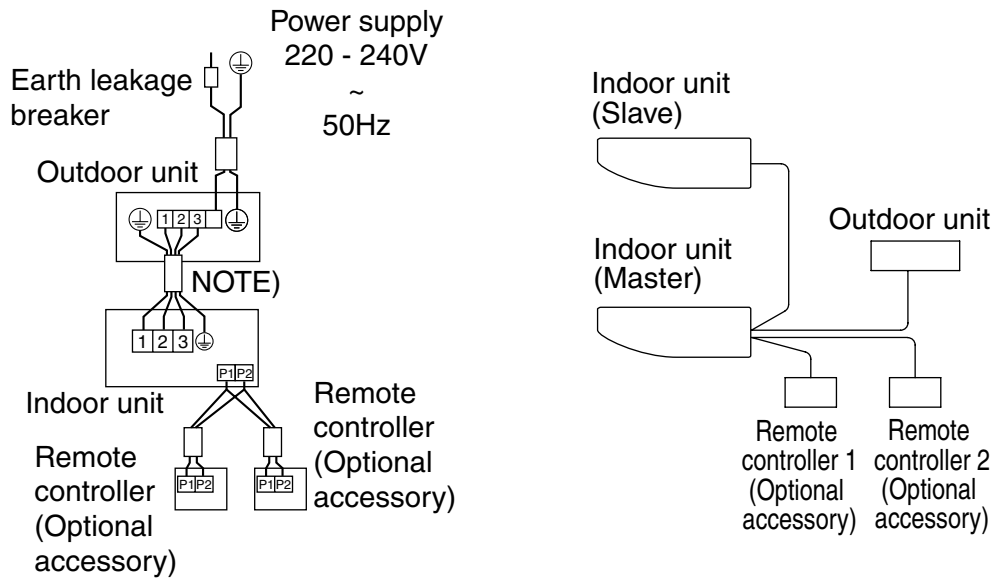

Fig. 36
- **2 remote controllers control:** 2 remote controllers control 1 indoor unit. (Refer to Fig. 36)